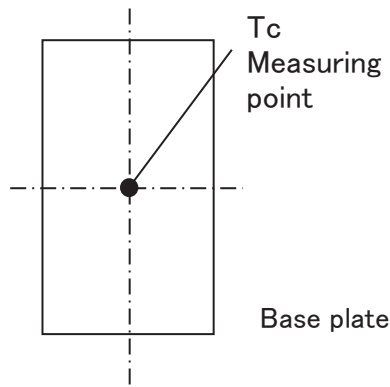

Fig.1.1 Measuring point of aluminum base plate temperature
- (1) Input :AC 85 ~ 305 [V]
- (2) Output :Rated output
- (3) Mounting method :As shown in Fig.1.1